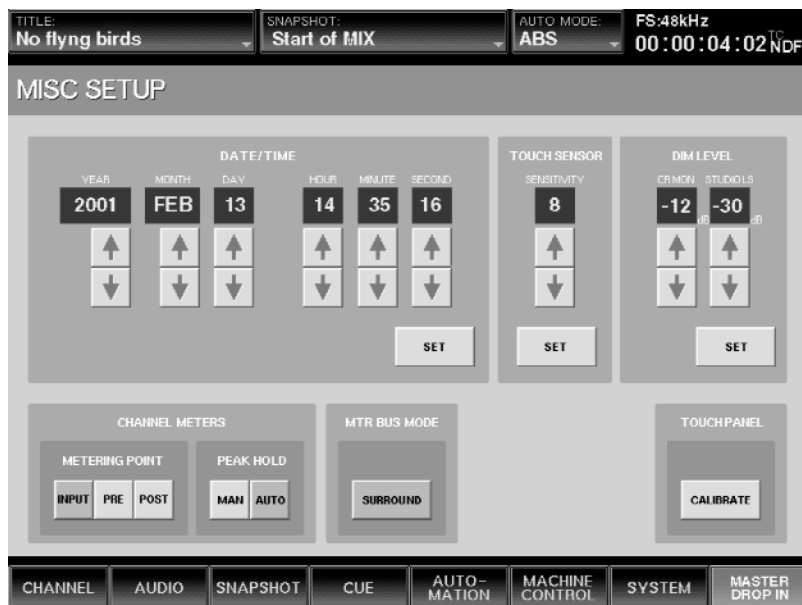

Figure 1
- 2 Press the SYSTEM tab at the bottom of the touchscreen. From the pop-up menu select MISC SETUP; the window appears. (See Figure 1)